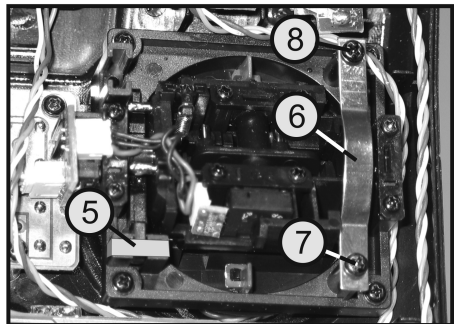

Figure 11
Then attach the latching bracket (6) enclosed with the remote control according to the lower illustration in figure 11. Observe correct installation position of the bracket. The lower screw (7) must be tightened firmly and the upper screw (8) only until the desired resistance in the control lever movement is reached.